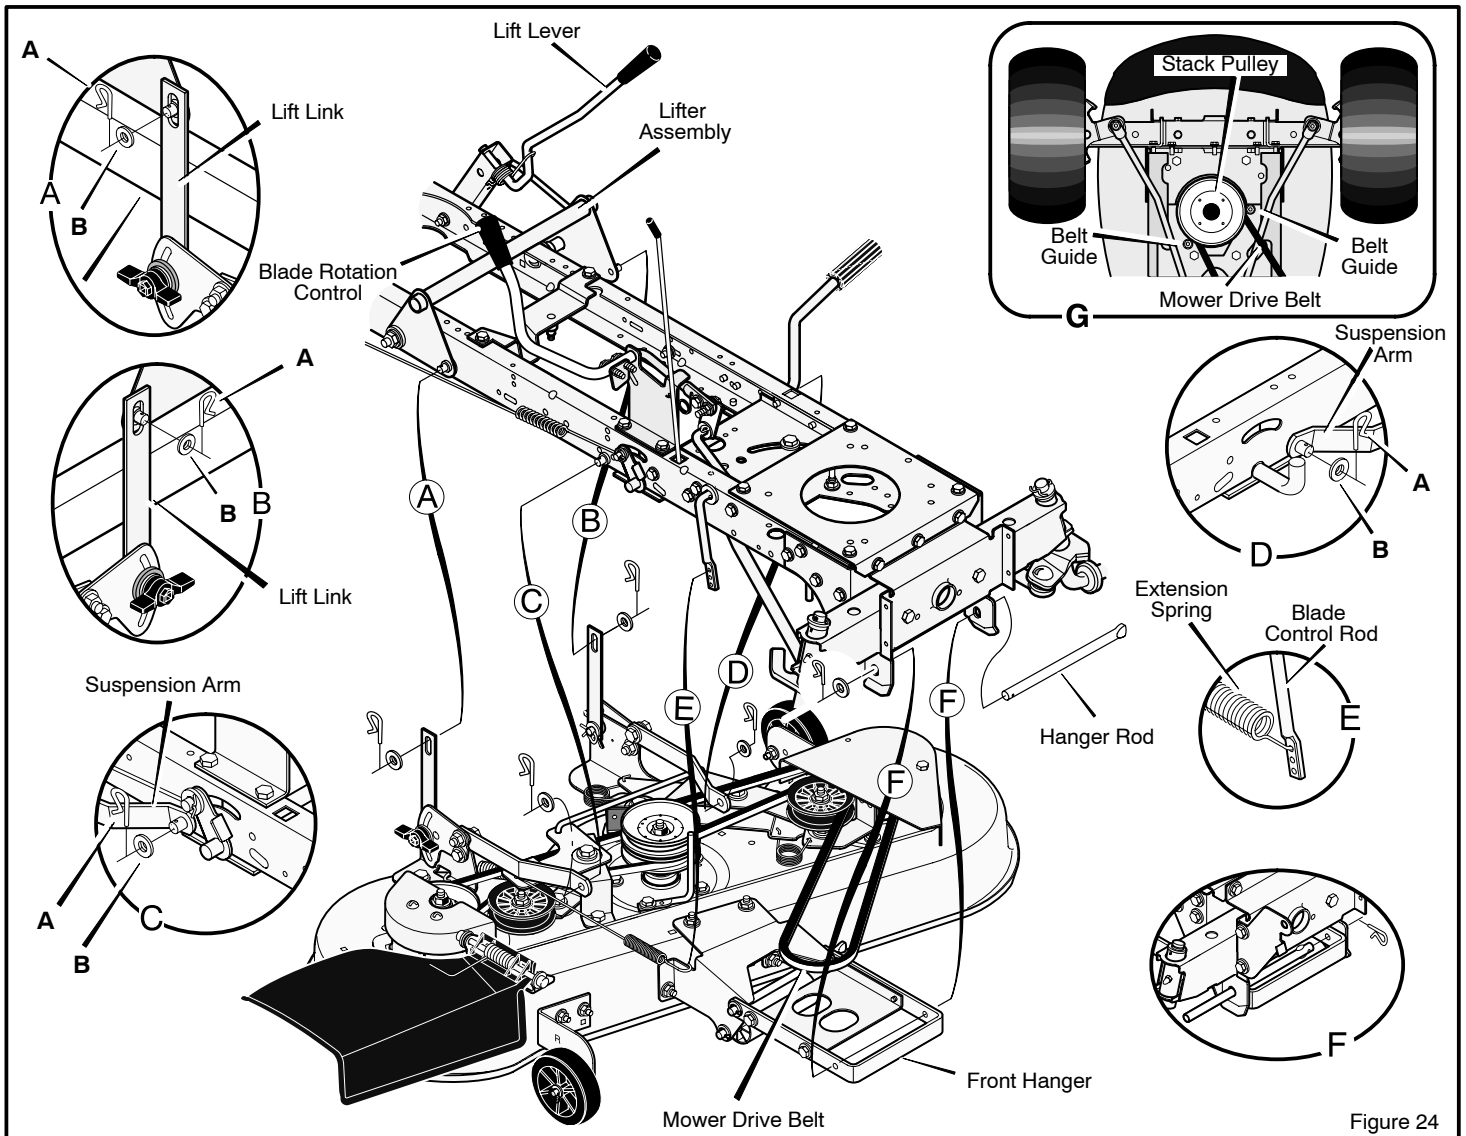

Figure 24
3. Remove the hair pins and the washers from the **suspension arms** (Figure 24). See illustrations "C" and "D".